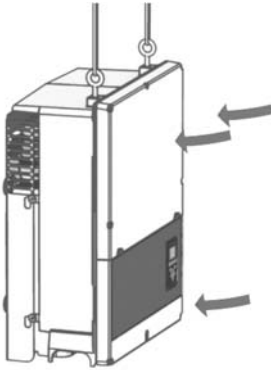
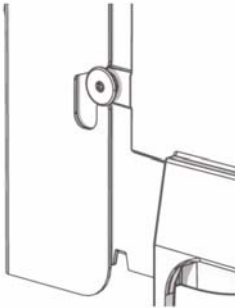

Figure 2.13 Sliding the screws into the slots
Figure 2.14 Detail of sliding into slot
- Push the inverter as shown so the side screws slide into the two lower slots and the two upper slots. See figure 2.13 and figure 2.14.